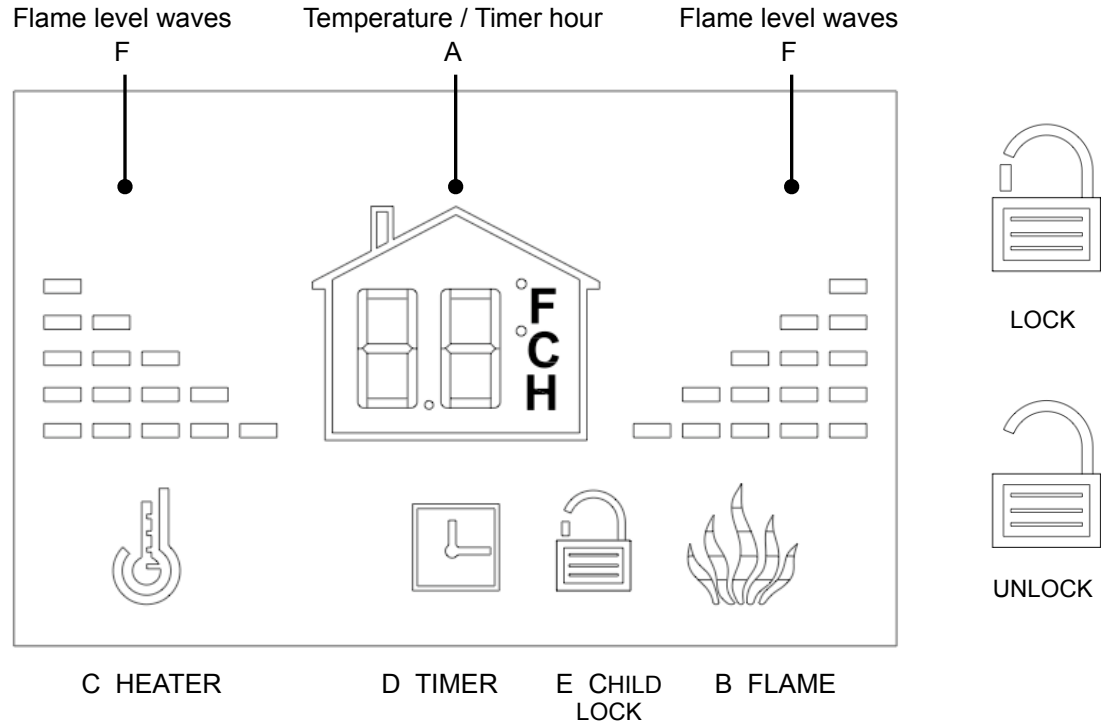

Figure 4
- ◆ The default setting of the flame is highest flame setting, Press UP(G) or DOWN(F) button, you can adjust the flame brightness, there are 5 levels of the brightness.
- ◆ When operating this button, the Display Screen FLAME icon will be twinkling (See Figure 4.B),
- ◆ When you are adjusting the flame brightness with UP(G) and DOWN(F) button, the Display Screen will show corresponding brightness level base on wave number (See Figure 4.F).
- ◆ There are total 7 heating levels from HIGH to LOW (95F/35C to 65F/18C), with press UP(G) or DOWN(F) button, the heating temperature can be set in 5F/3C interval.
- ◆ Press and hold the HEATER button 6 seconds, user can switch between Fahrenheit (F) and Celsius(C) in the Display Screen.
- ◆ When operating this button, the Display Screen HEATER icon will be twinkling. (See Figure 4.C).
- ◆ Press UP(G) or DOWN(F) button, you can set the turn off time from 0.5H to 8H with 0.5H interval.
- ◆ When operating this button, Display Screen TIMER icon will be twinkling. (See Figure 4.D)
- ◆ Press and hold the CHILD LOCK button 6 seconds, the locking features can be activated, The CHILD LOCK icon in Display Screen displays locked (See Figure 4.E). All fireplace features are disabled. All the Control Panel buttons and Remote Control are deactivated.
Display Screen: (Locate in Figure 4)
Flame Control (Figure 4. B):
- ◆ When you are adjusting the flame brightness with UP(G) and DOWN(F) button, the Display Screen will show corresponding brightness level base on wave number (See Figure 4.F)
Heater Control (Figure 4.C):
- ◆ When adjusting the flame brightness with UP and DOWN button, the display screen will display the heater setting in using accordingly with either Fahrenheit (F) or Celsius degrees (C). Without further operations, the display screen display room temperature after around 6 seconds. (See Figure 4.A)
- ◆ When operating this button, display screen TIMER icon twinkle (See Figure 4.D).
- ◆ Press UP and DOWN button to adjust the timer form 0.5 to 8H, 0.5 hour each press. The display screen will display the timer setting in using accordingly (See Figure 4.A).
- ◆ Press the CHILD LOCK once to activate the child-lock function, once this function is activated, all the other buttons be locked, the display screen CHILD LOCK icon display locked (See Figure 4.E).
- ◆ Press the CHILD LOCK button for 6 seconds again to unlock the control system, and the other buttons can be operated again, the display screen CHILD LOCK icon display unlock (See Figure 4.G).